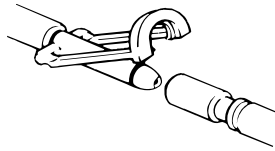

Figure 22 – Clik-Tite open
- b. If you have **Click-Tite** hoses, make sure that the connectors and clamps are open (Figure 22).